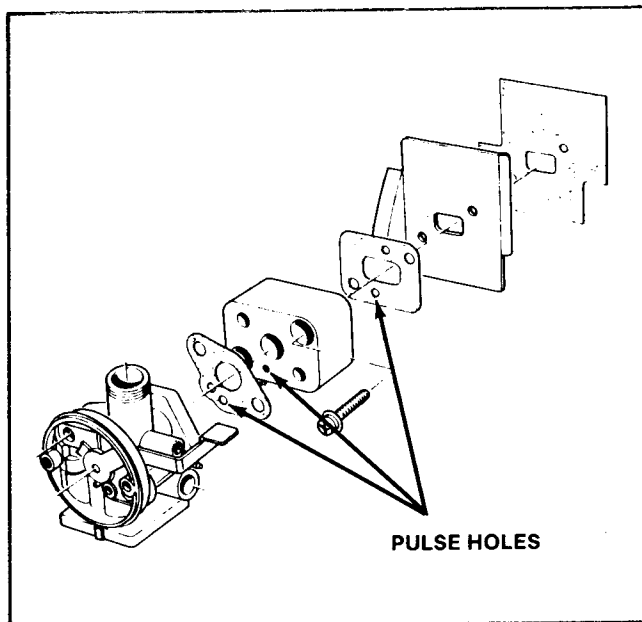

Figure 31
1. Install the intake flange with gaskets and heat shield making certain that the pulse hole is not obstructed by any of the intake components. Secure by tightening the screws to .3 to .45 kg m (26 to 38 in lbs). See Figure 31.